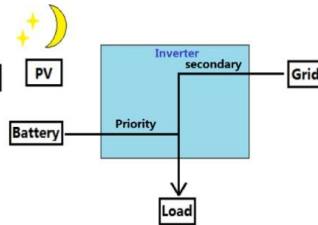

Figure 1-5
- 2.When the PV is insufficient, the battery and the grid work together to supply power to the load (Figure1-5).